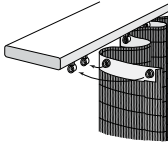

figure 6
- a. *Un-lined drapery with snaps:* Starting at the master carrier, snap the two male snaps into the two female buttons. Begin snapping drapery to pendants alternating folds front to back (figure 6).